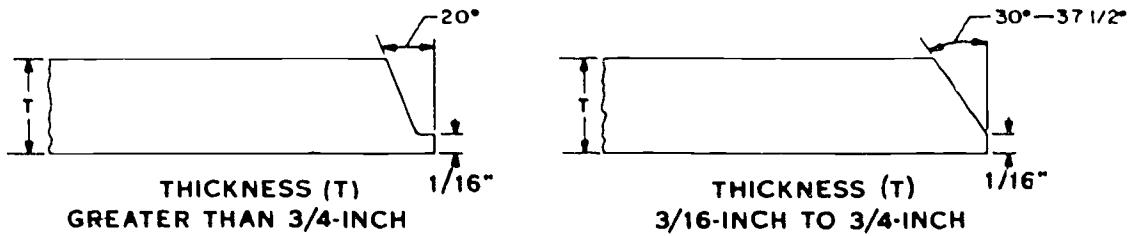

Figure 7-1. Forms of bevels for butt welded joints.
**Butt Joint.** The most common type of joint used in the fabrication of welding pipe systems is the *butt joint*. It is the most satisfactory from the standpoint of stress distribution. When the wall thickness of the pipe is  $3/16$  inch or greater, the ends of the pipe are beveled to an angle of  $20^\circ$  to  $37\frac{1}{2}^\circ$  to within  $1/16$  inch of the inside wall of the pipe, as shown in figure 7-1.